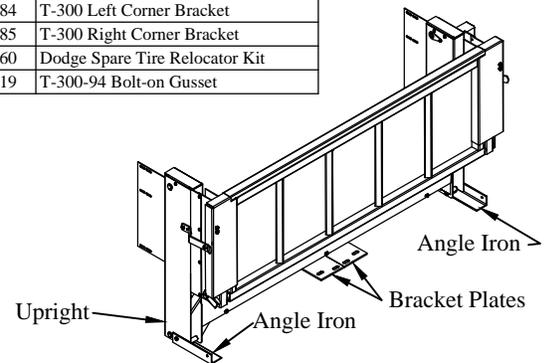

Figure 3: Complete liftgate (G² shown).
4. **Unbolt** and **Save** the two (2) angle irons attached to the liftgate uprights- **G² only** (Figure 3).
5. **Remove** and **Save** the two (2) bracket plates attached to the liftgate- **G² only** (Figure 3).